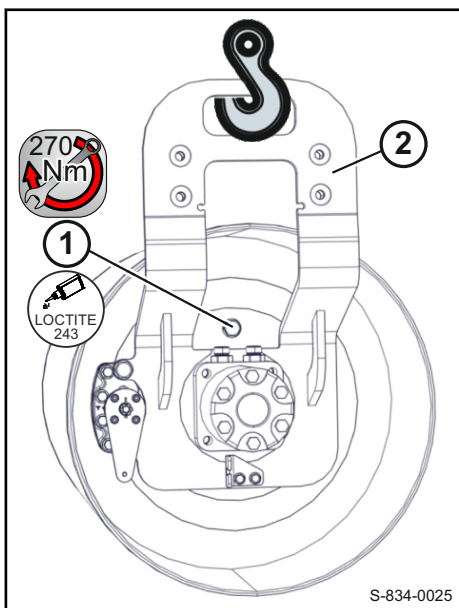

Fig. 266
- Mount support leg 2 ↪ Fig. 266 with travel motor, drive disc and parking brake to the drum.